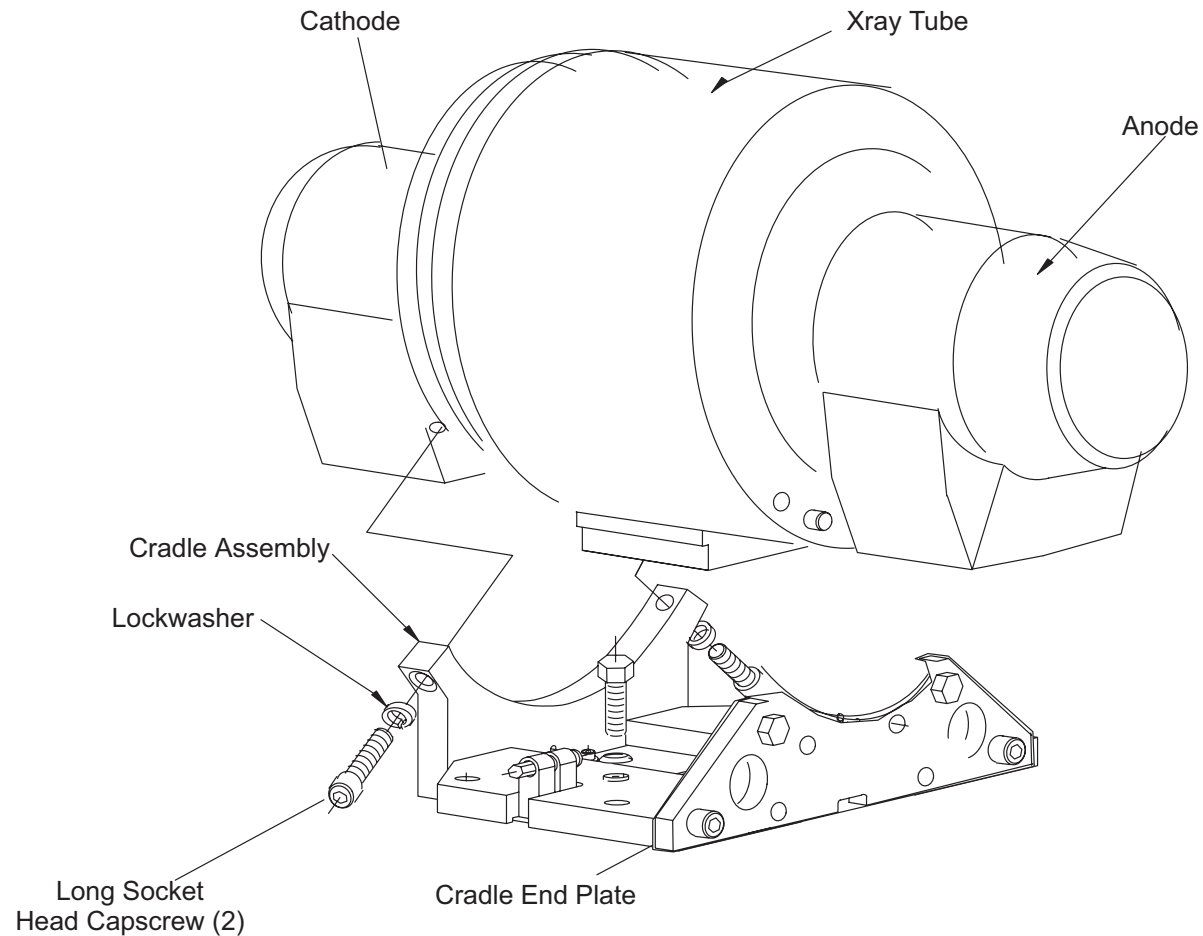

FIGURE 254 Cradle Assembly
23. Attach Cradle Assembly to Xray Tube. Follow illustration in Figure 254 for proper installation. Torque Mounting Hex Head and Socket Head Screws to 15 ft-lbs. alignment Pins.